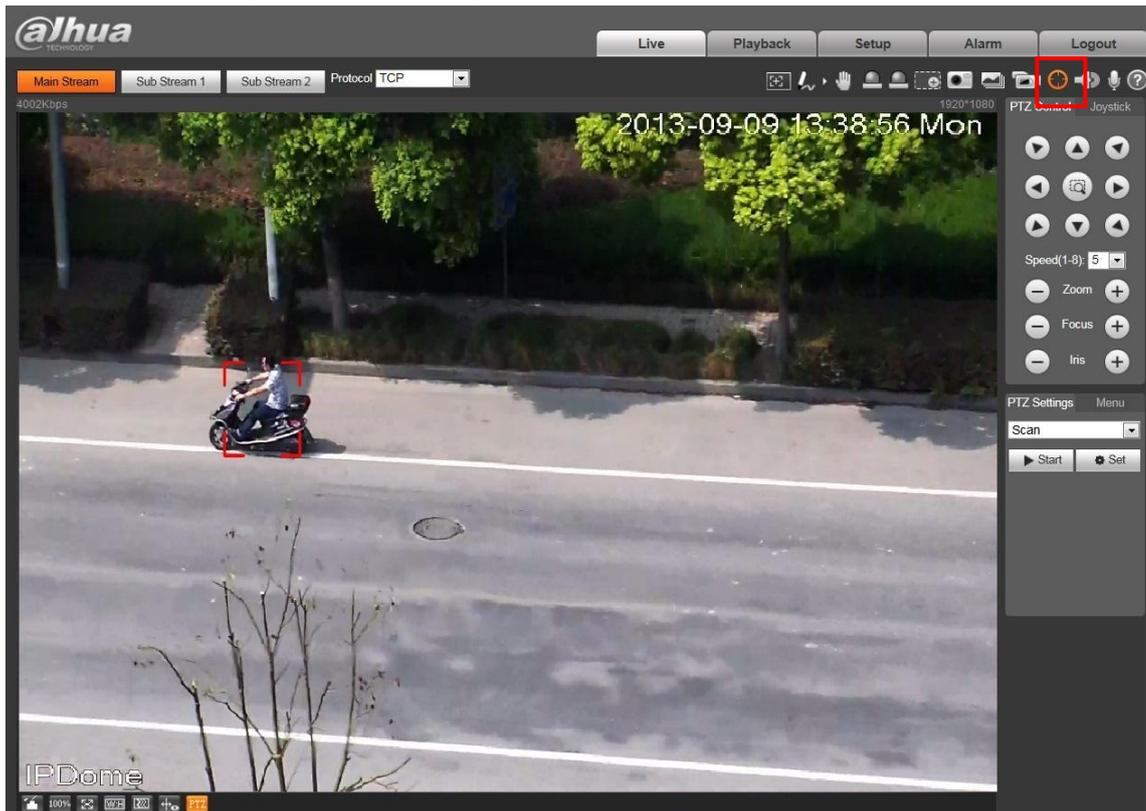

Figure 3-10
- 4) Click the Live button; you can use the PTZ to set the monitor scene. Please note, when you switch to a new scene, system needs to wait for about 3 seconds to enable the auto track function. Click the button and select an object in the scene, now the speed dome can enable track function in the specified monitor zone. See Figure 3-10.